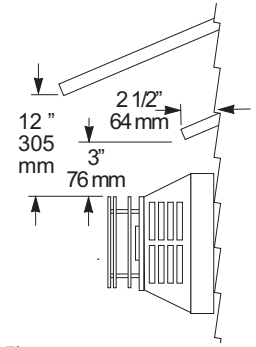

Figure 13.
- **A horizontal termination cap must maintain a 3" clearance to any overhead combustible projections that are 2 1/2" or less.** It must also maintain a 12" clearance from projections that exceed 2 1/2". See fig. 13.